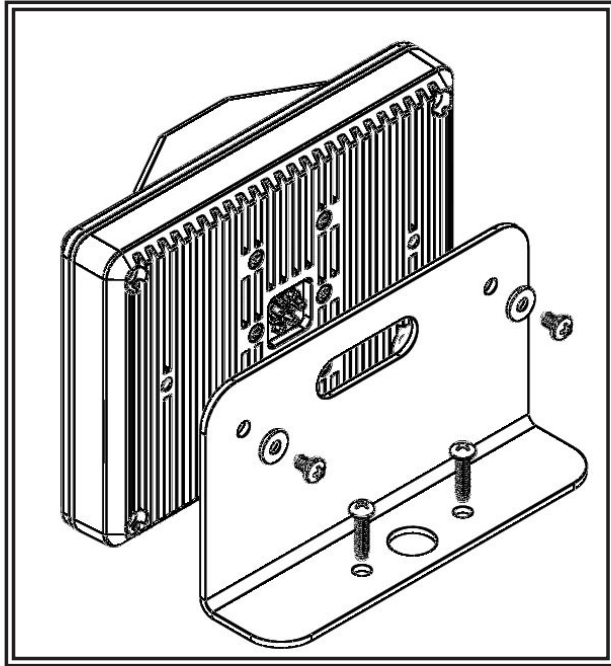

FIGURE 1
4. Mount the directional and bracket to the mounting surface, routing the wires through the 10 mm hole using additional grommets or cable protection as necessary to protect the wiring from any sharp edges. Secure the directional to the surface using the supplied thread forming screws. See Figure 1.